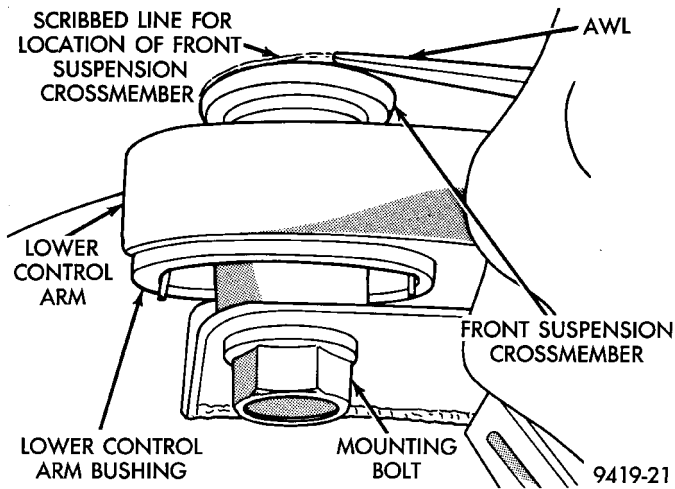

Fig. 11 Marking Front Suspension Crossmember Location
(10) Using an awl, scribe a line (Fig. 11) marking the location of where front suspension crossmember is mounted against the body of the vehicle.